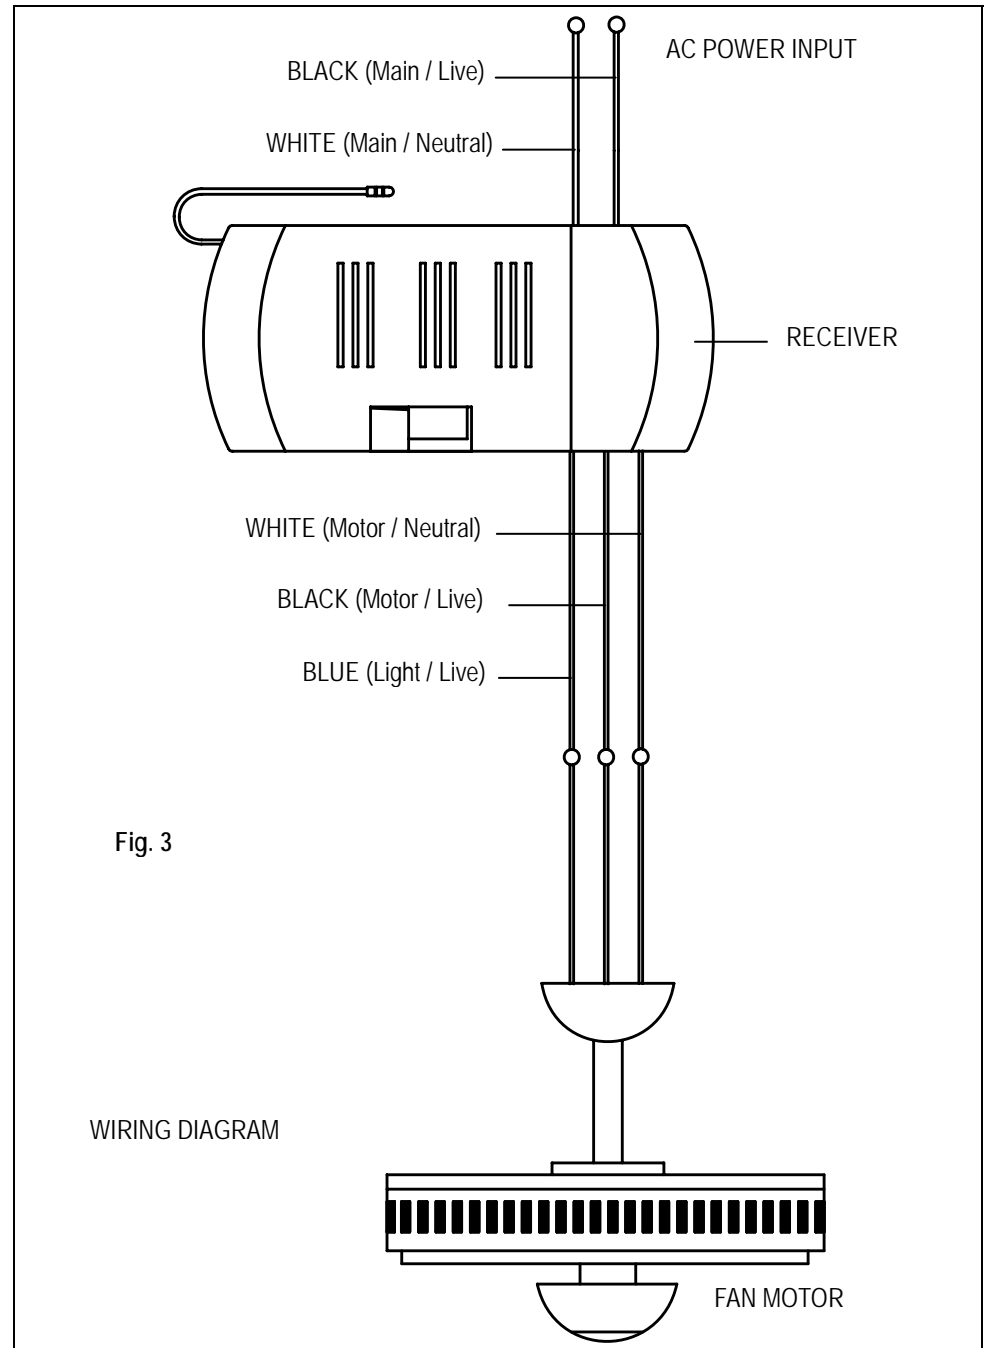

Fig. 3
5. Remove wall plate, disconnect and remove the toggle switch from wall outlet box. Make the electrical connections to the wall control (transmitter) unit as shown in Fig. 3. Carefully push all connected wires inside wall outlet box. Secure wall control unit with 2 screws previously removed. After installed well, slide the Power On/Off switch on wall control to "ON" position. **NOTE:** Before installing wall control, slide the switch to "OFF" position.